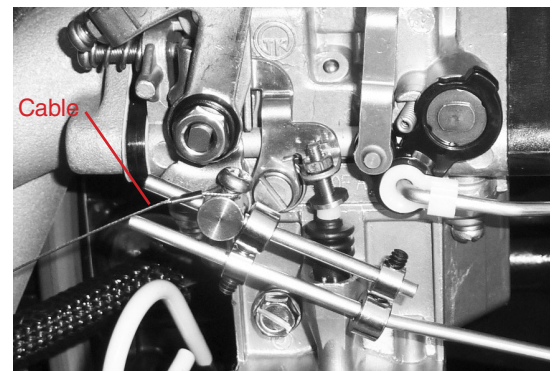

Figure 4
- Put carb fitting set screw through looped end of supplied cable assembly. Install set screw into carb fitting - do not tighten. See Fig. 4.
- If bend is there, move iTroll throttle rod so slip connector "B" sits just LEFT of the bend in stock throttle rod (see Fig. 4).